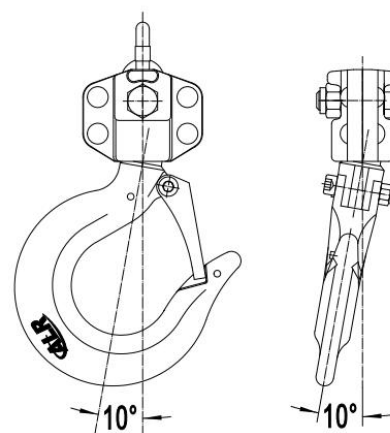

Figure 3
- If the vertical angle at the neck of the bottom or top hook reaches 10°, replace the hook (see Figure 3).